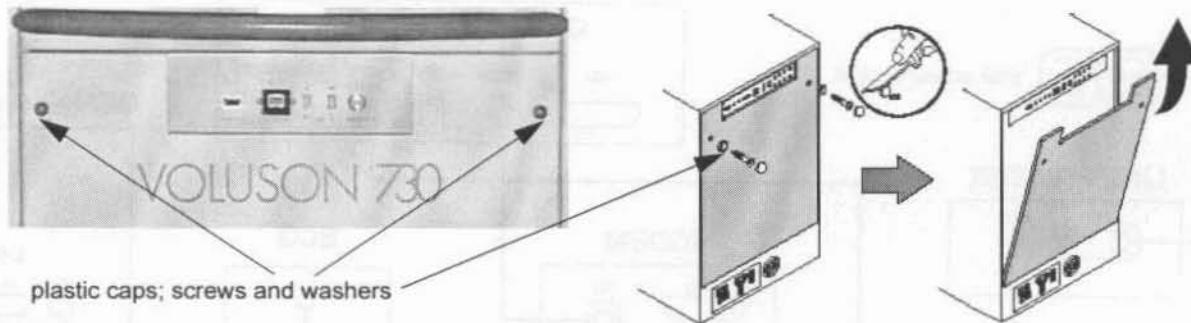

Figure 3-6 Remove rear cover plate
- 1.) Remove rear cover plate, see Figure 3-6.